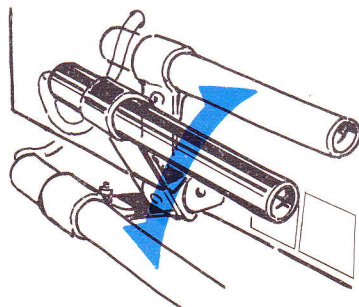

Fig. 8
- Refer to AM RECEPTION on page 8. With an AM station tuned in, position the ferrite antenna for optimum reception. See Fig. 8.